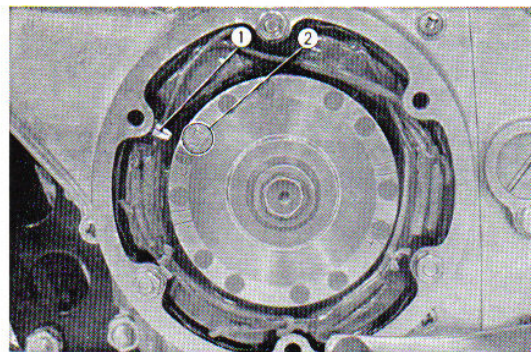

Fig. 3.22 Align the LT mark.
- (2) Position the left piston to top-dead-center by aligning the "LT" mark on the generator rotor to the index mark on the stator. (Refer to Fig. 3.22)